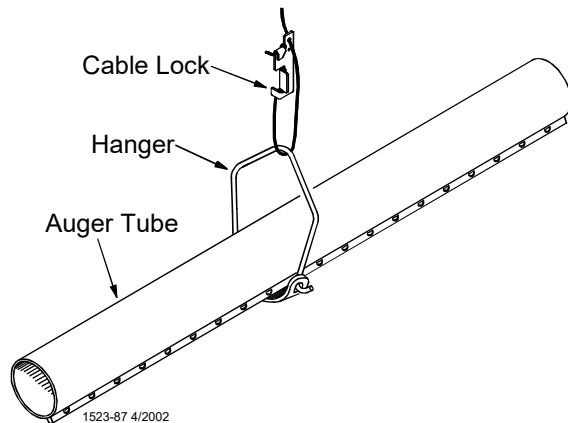

Figure 31. Assembling Feeders on the Tubes
8. Install Adjustment Leveler within 6" [152 mm] of feeder line. **Figure 31** shows the proper cable routing around the Adjustment Leveler.